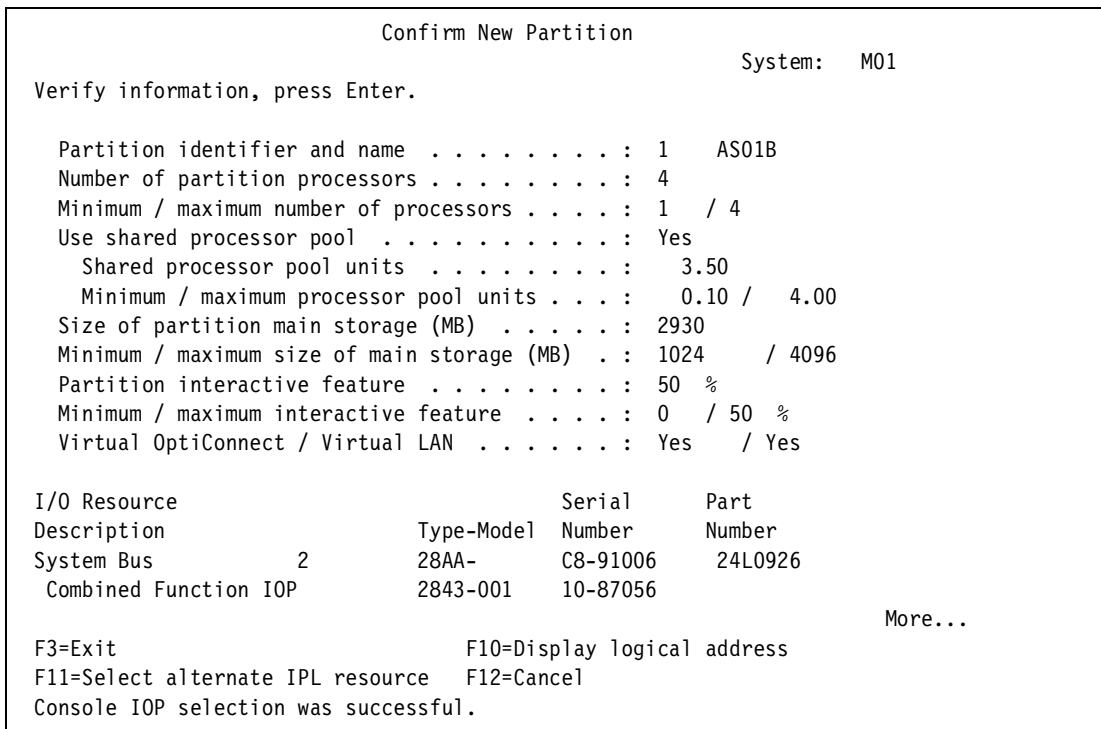

Figure 4-39 Confirm New Partition
14. Review all of your selections as shown in Figure 4-39 and press Enter to confirm. Notice that as you have been making and confirming your selections, at the bottom those screens, you see messages such as “Load source IOP selection was successful.”